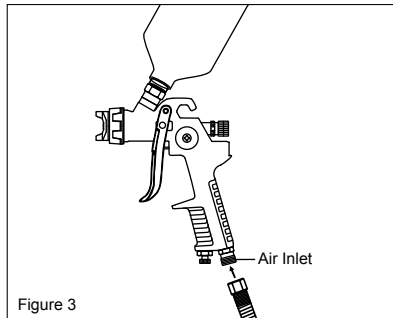

Figure 3
3. Connect air supply hose to the air inlet of the spray gun. Use thread sealant tape (not included) for airtight connection. Do not overtighten. (See Figure 3)